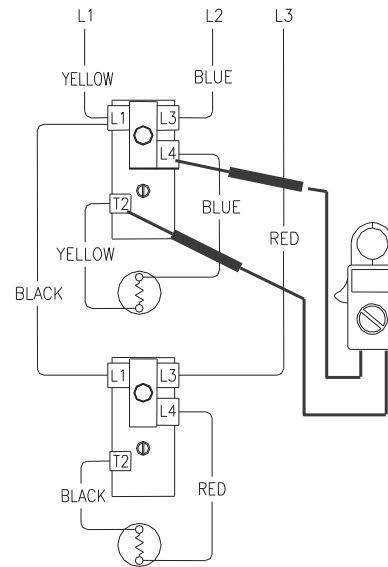

Figure 22
5. Check across terminals L4 and T2 of upper thermostat (see Figure 22).